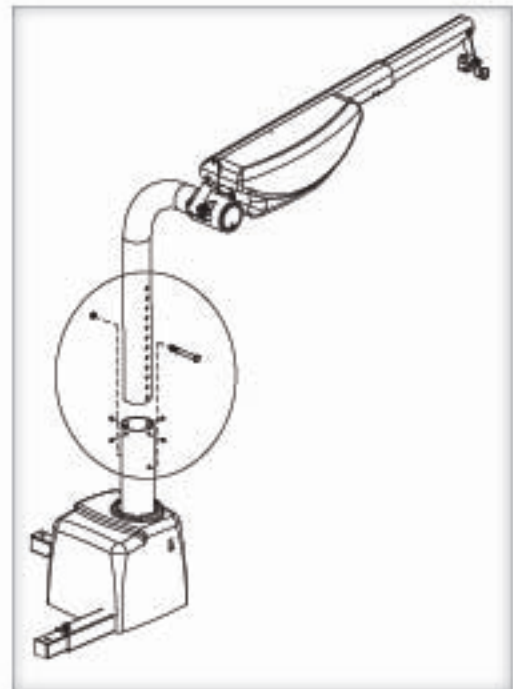

Figure 27-1
- Loosen set screws (x4) [Figure 27-1]